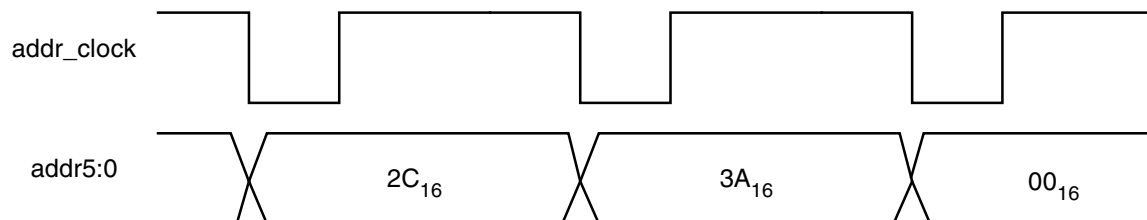

Figure 4b
- b) Given that the timing diagram for the input signals addr_clock and addr5:0 are as shown in Figure 4b, draw the timing diagram for the signals at X and Y. Label your timing diagram with the following four possible signal states: *driven low (DL)*, *driven high (DH)*, *charged low (CL)* and *charged high (CH)*.